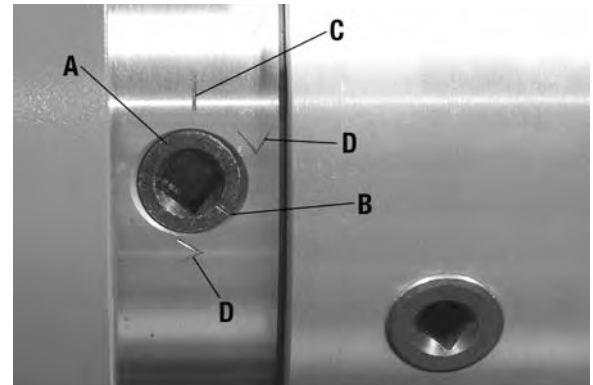

FIGURE 5
All the camlocks (A) Fig.5 should be in their release position, the camlock mark line (B) line up with the spindle nose mark line (C). Mount the chuck or faceplate onto the spindle nose, once in position, each camlock must be tightened and locked into place. Camlocks (A) are tightened by turning them clockwise using the provided Camlock Key. The cams are properly locked into place when the camlock mark line (B) is inbetween the 2 V's (D) on the spindle nose, see Fig.5.